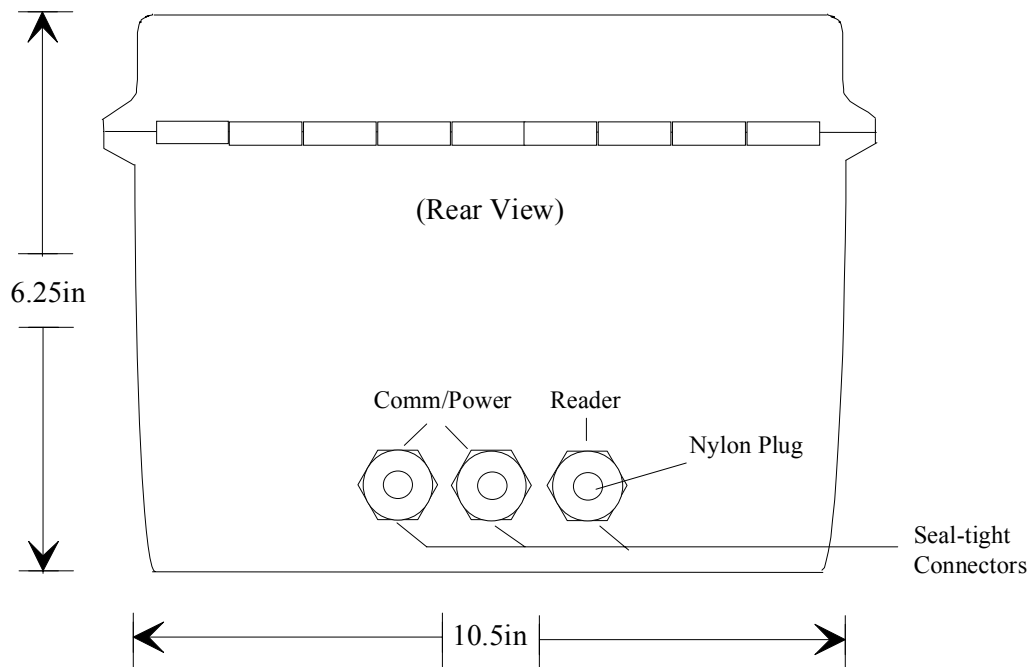

Figure 1
With the terminal's Test/Use switch in the Use mode (Figure 1), replace the hinged cover of the enclosure.
- One end of the 1 foot RJ45 flat cable terminates into J1 while the other plugs into the communication port pictured above in Figure 1.